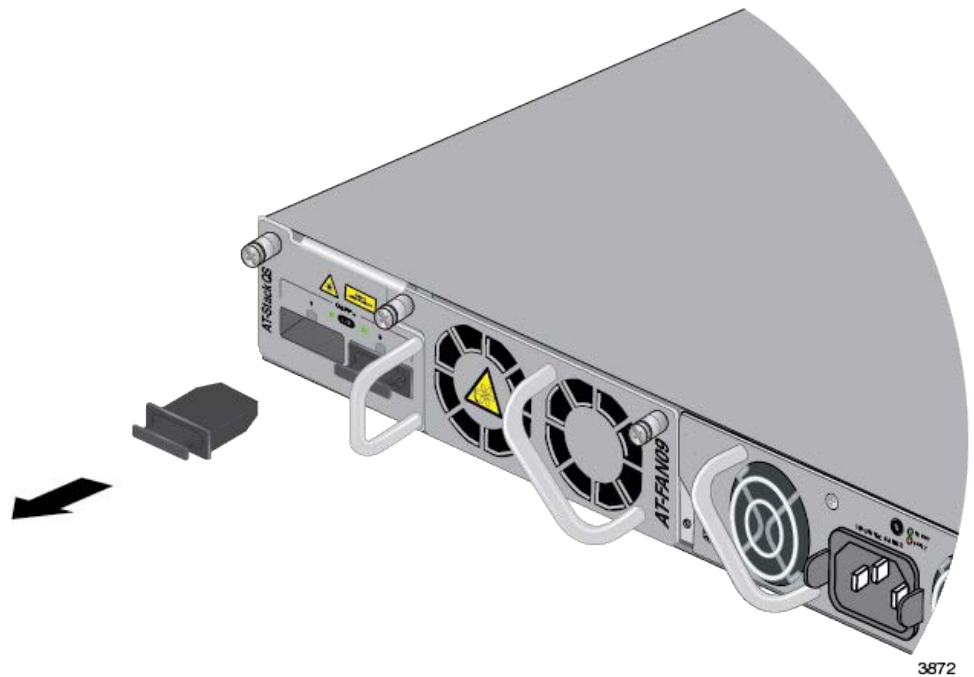

Figure 91. Removing the Dust Cover from Port 1
1. Remove the dust cover from a port on the AT-StackQS Card. Refer to Figure 91.